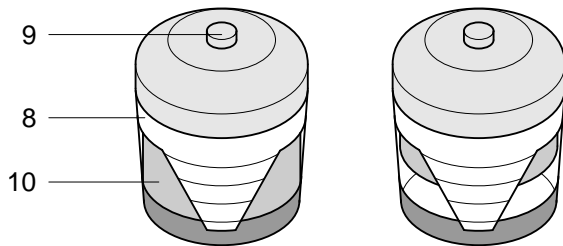

Fig. 5.3 Vacuum indicator
The vacuum indicator can be reset by pushing the reset button in the extremity of the body (Fig. 5.3,9).
5. Reset the vacuum indicator (Fig. 5.3).